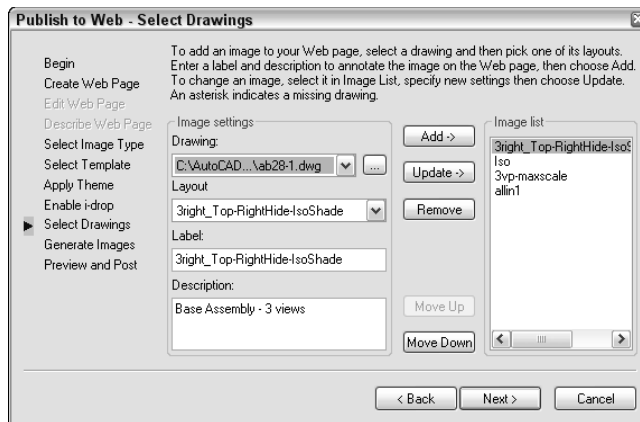

Figure 28-10: On the Select Drawings screen, add each drawing you want to include on the Web page and specify a layout, label, and description for each.
8. On the Select Drawings screen, shown in Figure 28-10, choose the drawings that you want to publish. If the drawing is open, you can select it from the Drawing drop-down list. Select each drawing, choose a layout (or model) from the Layout drop-down list, type a label, and type a description to appear on the Web page. Then click Add. (If the drawing is not open, click the ellipsis button, navigate to the drawing, and click Open. Enter a label and description and then click Add.) Click Next.